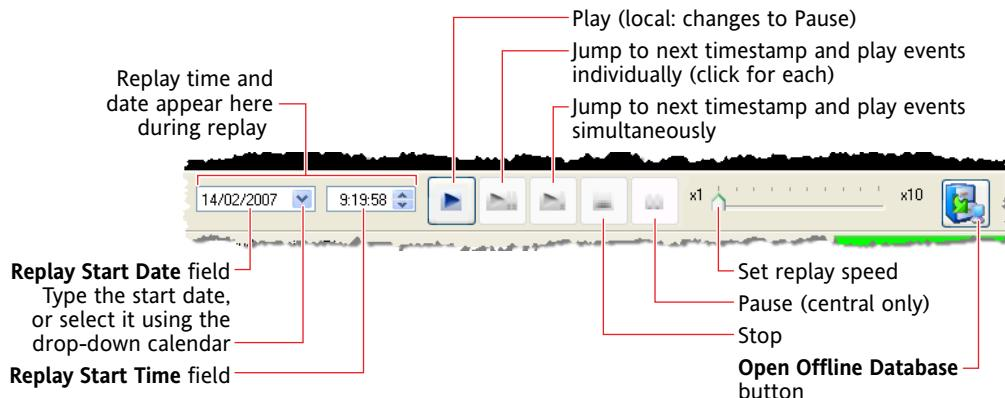

Figure 4.3 Replay Bar controls
- In the **Replay Start Date** and **Replay Start Time** fields (figure 4.3), enter the date and time from which you want to begin the replay.
- Use **Play** and the other replay controls shown in figure 4.3 to replay the events beginning from your selected start date and time. If no data is available for the selected day and time, the display begins at the next available event.
- e) In the **Replay Start Date** and **Replay Start Time** fields (figure 4.3), enter the date and time from which you want to begin the replay.
- f) Use **Play** and the other replay controls shown in figure 4.3 to replay the events beginning from your selected start date and time.